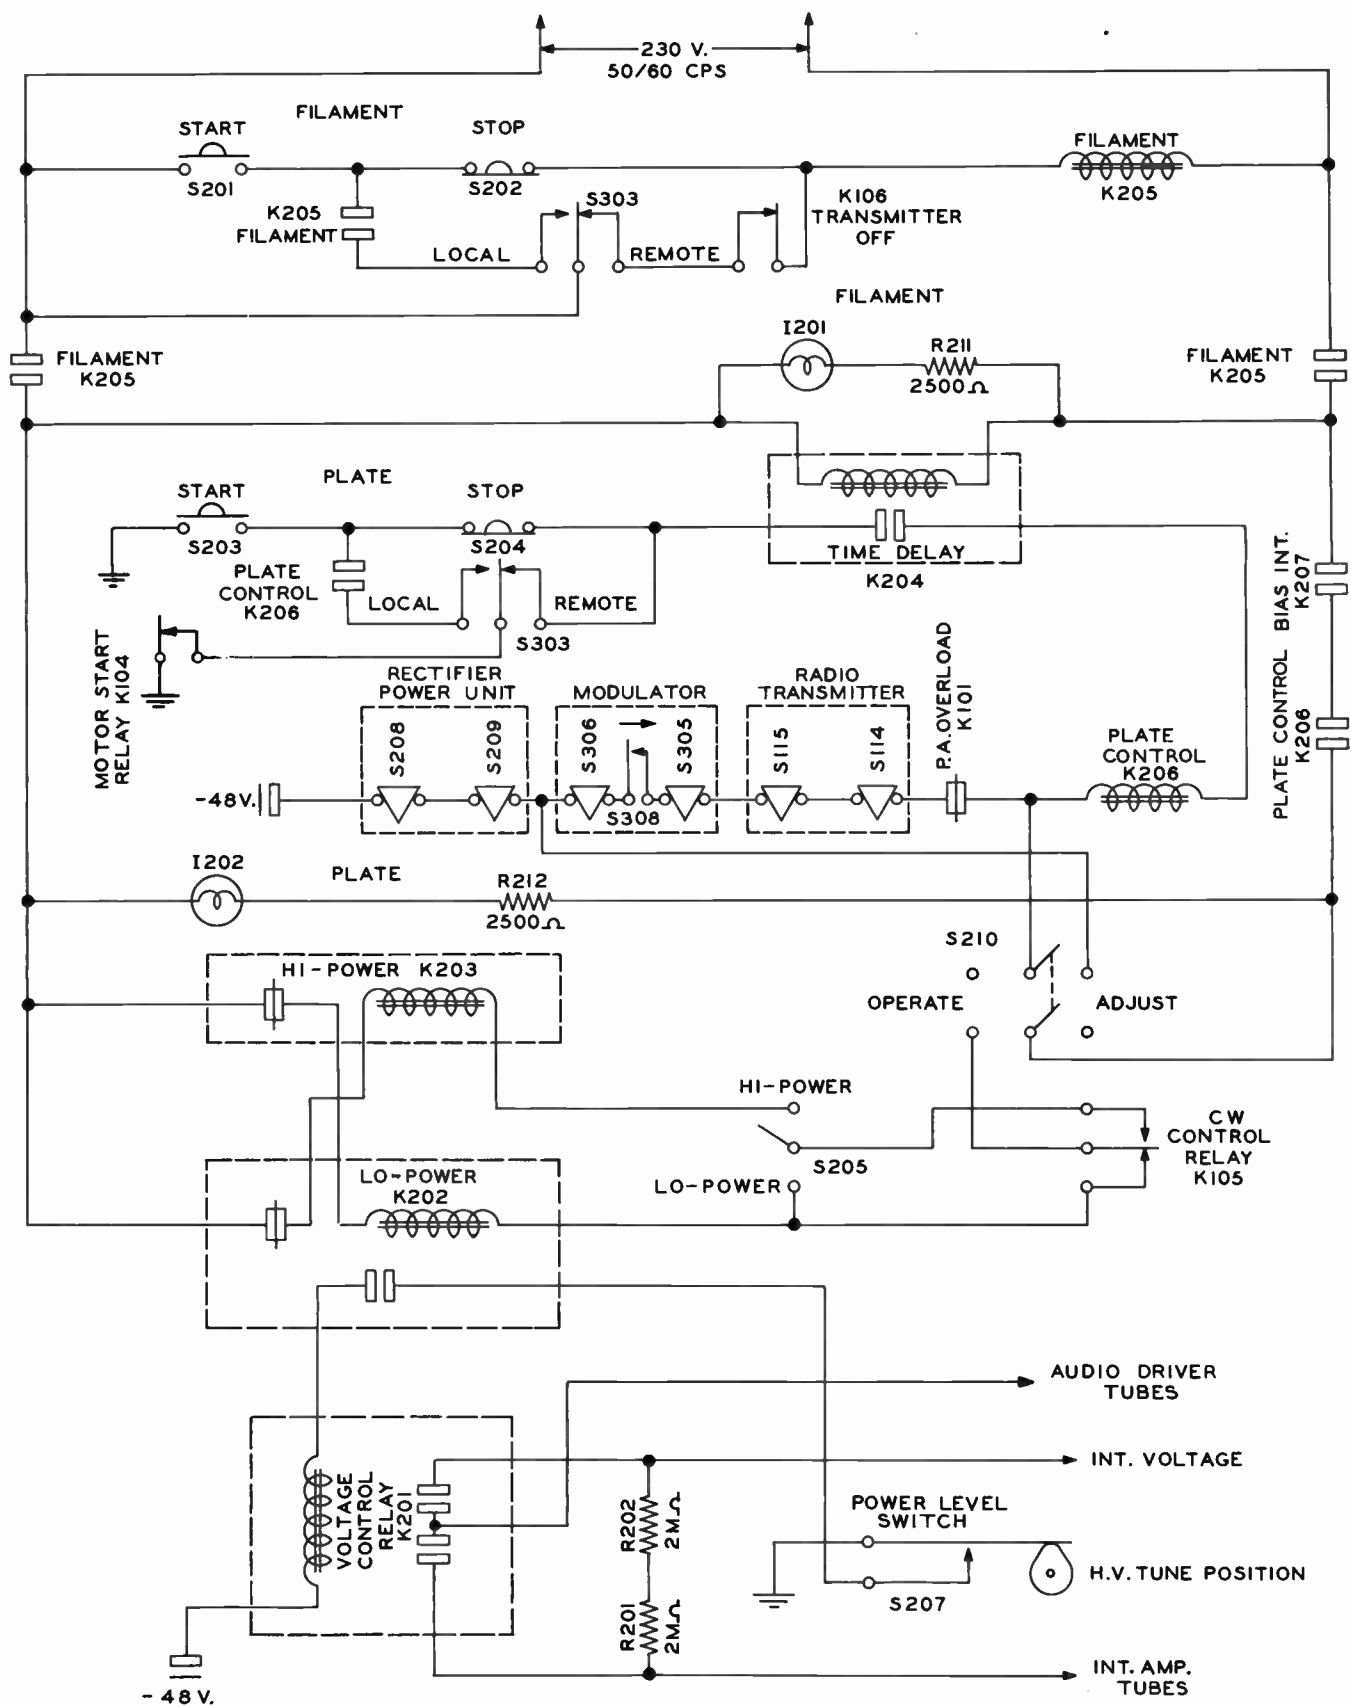

Fig. 2 Power Control Circuits (Dwg. No. 500 0703 00C)
2.2 POWER CONTROL CIRCUITS. Refer to Fig. 2. This transmitter has been designed for normal control from a remote position using the Collins Type 177G-10 or 177G-9 Remote Control Units. A key switch located on the speech amplifier unit panel permits transfer of power and control of emission from the remote control unit to the panel controls.
shown on Fig. 2) the energizing circuit for the voltage control relay will be broken. If the switch is operated to the OPERATE position, the voltage control relay will operate following the operation of the IO-POWER relay. Operation of relay K201 applies plate voltage to the audio driver tubes and shorts out resistors R201 and R202 to increase voltage that is applied to the intermediate amplifier tube plates.
To begin the sequence of power application, press the FILAMENT START switch, S201. The momentary closing of the circuit through switch S201 actuates the filament relay, K205. The filament relay is held operated by the circuit through the normally closed contacts of the FILAMENT STOP switch, S202, the contacts of the FILAMENT relay, and the normally open (as shown on Fig. 2) contacts of the LOCAL-REMOTE switch.
If the ADJUST-OPERATE switch is in the OPERATE position, the operation of the plate control relay completes the circuit necessary to energize the IO-POWER relay, K202. If CW emission is selected by dialing A1 (operates the CW control relay, K105) and the power level switch is in the HI-POWER position, the HI-POWER relay, K203, will be operated. High power can be used only with CW emission, no matter what position the power level switch is in, because the CW control relay must be operated if the circuit necessary for the energizing of the HI-POWER relay is to be completed. If the TUNE-OPERATE switch, S207, is in the OPERATE position (H.V. TUNE position shown in Fig. 2), the operation of the IO-POWER relay will complete the circuit necessary for the energizing of the voltage control relay K201. The operation of the voltage control relay shorts out resistors R201 and R202 to increase the voltage that is applied to the intermediate amplifier tube plates and applies plate voltage to the audio driver tubes.
of plate voltage to the bias rectifiers energizes the bias interlock relay which when operated completes the circuit necessary to energize the low voltage rectifier plate transformer, T205, and the circuit necessary to energize either the LO-POWER relay or the HI-POWER relay. (Refer to Fig. 2.) The operation of either of the plate power relays will energize the plate power transformer.